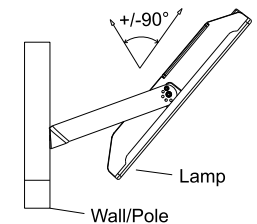

Figure 21
Step 3: Connect the fixture to the bracket and tighten the screws; connect the wires properly and put them into junction box. (Figure 21)
Notice: Adjustable angle is 0~+/-90° (Figure 21)